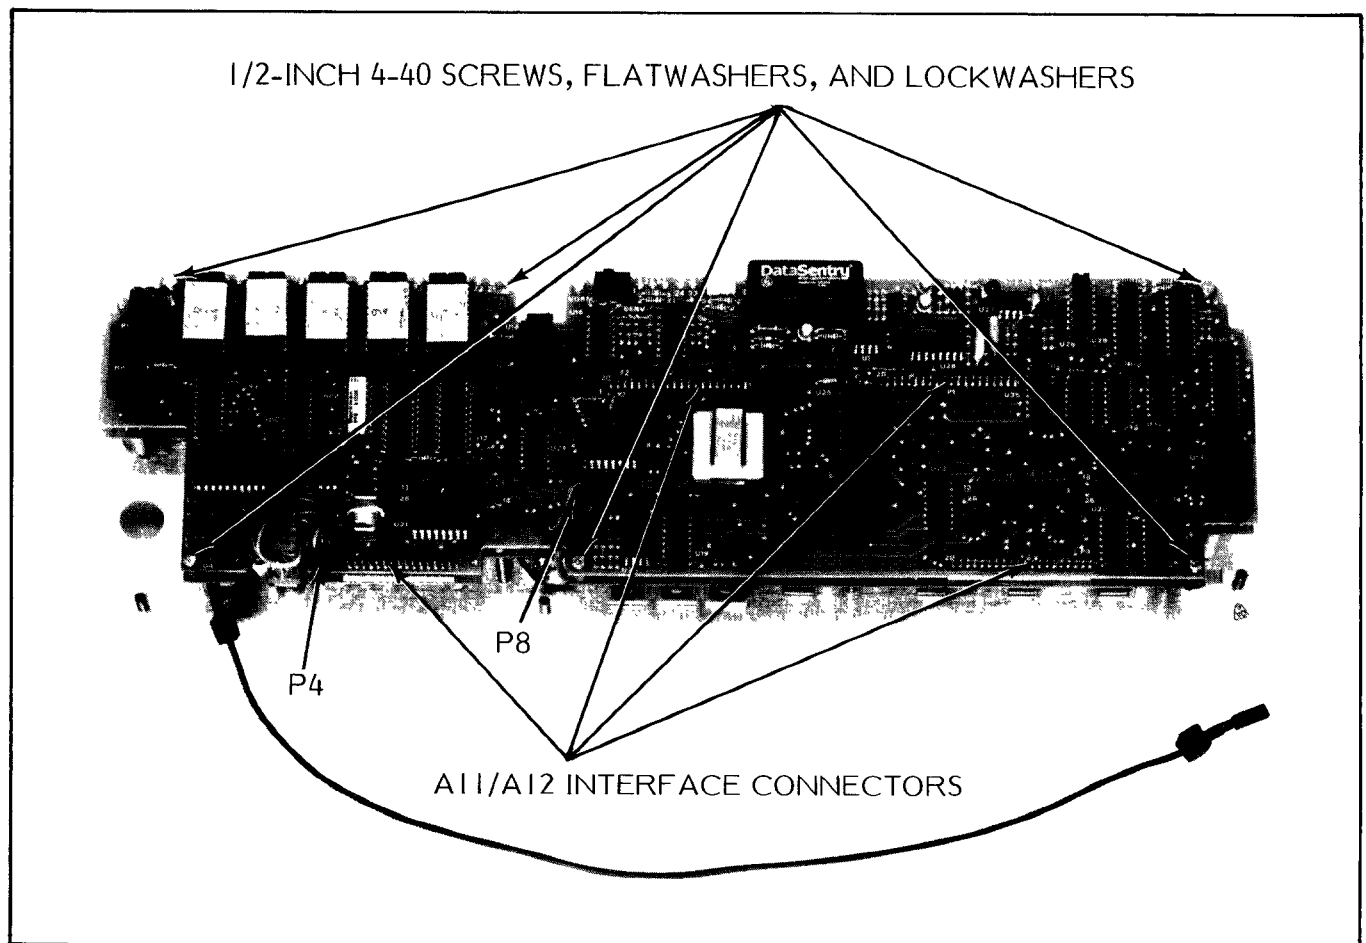

Figure 7-4. 6600 Series Programmable Sweep Generator, Front Panel Assembly
The A12 and A11 PCBs are interconnected using 4 in-line-pin connectors (Figure 7-4). When separating the two PCBs, use care to avoid bending connector pins.
7. Reconnect the 5-wire connector to A12P4 (green wire to pin 20); see Figure 7-4.
8. Reconnect the 3-wire connector to A12P8 (brown wire to pin 1); see Figure 7-4.